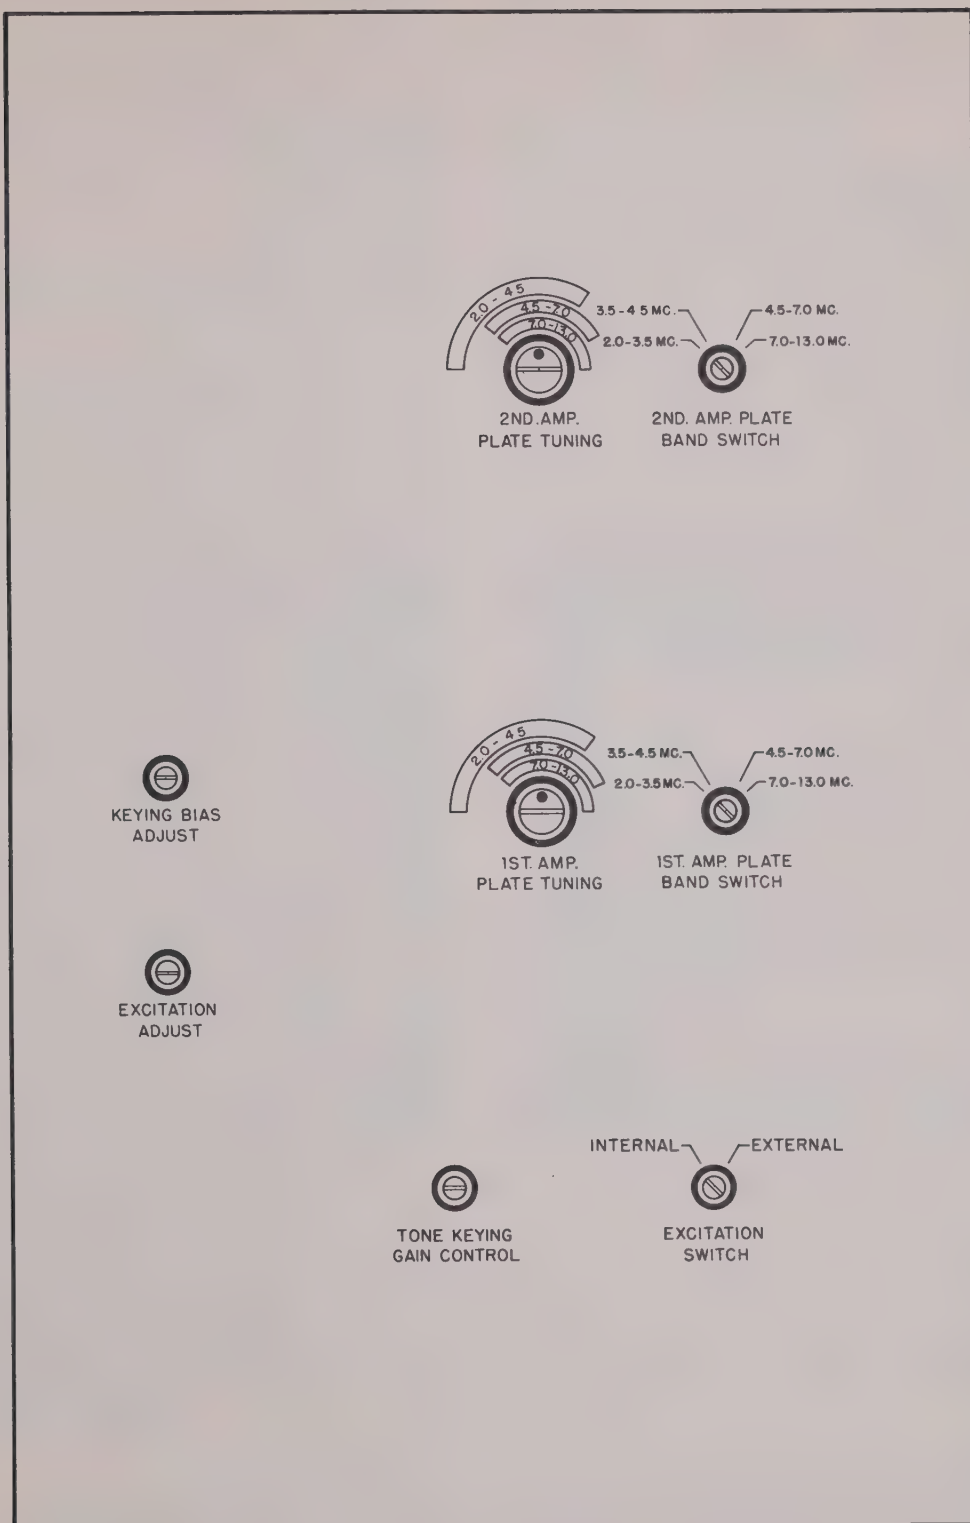

Figure 27. Radio Transmitter Model 96D, exciter chassis controls
(4) If the operating frequency of the transmitter is to be between 10.0 and 26.0 mc, divide the operating frequency by four. The result is the frequency of the crystal that must be used. Example: The transmitter is to be operated at 15.6 mc. The correct crystal frequency is 3.9 mc.
e. Set the 1ST AMP PLATE BAND SWITCH and the 2ND AMP PLATE BAND SWITCH (fig. 27) to the correct frequency band as determined by the desired frequency of operation and columns 4 and 5 of table I.
d. Set the EXCITATION ADJUST (fig. 27) to the maximum clockwise position. Rotate METER SWITCH S-4 (fig. 25) to the 2ND AMP GRID position.
f. Set the METER SWITCH to the 3RD AMP GRID position and set the TEST KEY to ON. Adjust the 2ND AMP PLATE TUNING control (fig. 27) for maximum indication on the meter; that is, maximum third amplifier grid current. (See note at the end of this paragraph.)
h. Back off (move counterclockwise) the EXCITATION ADJUST control (fig. 27) until the third amplifier grid current is about 5 ma (milliamperes). Set the TEST KEY to its center position.
c. Keying Bias Adjustment. With the transmitter operating, rotate the KEYING BIAS ADJUST control R-30 (fig. 27) clockwise slowly until the final amplifier grid current meter starts to indicate.